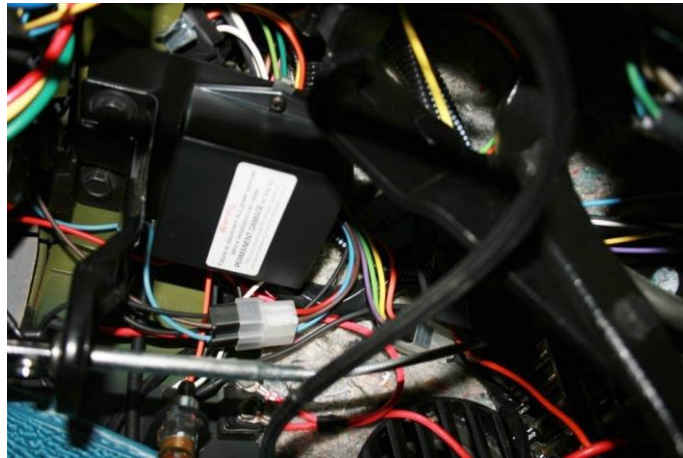

Figure 16 - Mount Control Module
29. Install the headlight door control module mounting bracket under the hood release cable bracket and reinstall the bolts (Figure 16). If the hood release cable is not mounted through these holes, use the included 5/16"-18 x 3/4" L Flange Head Hex Cap Screws to mount the module in the position.